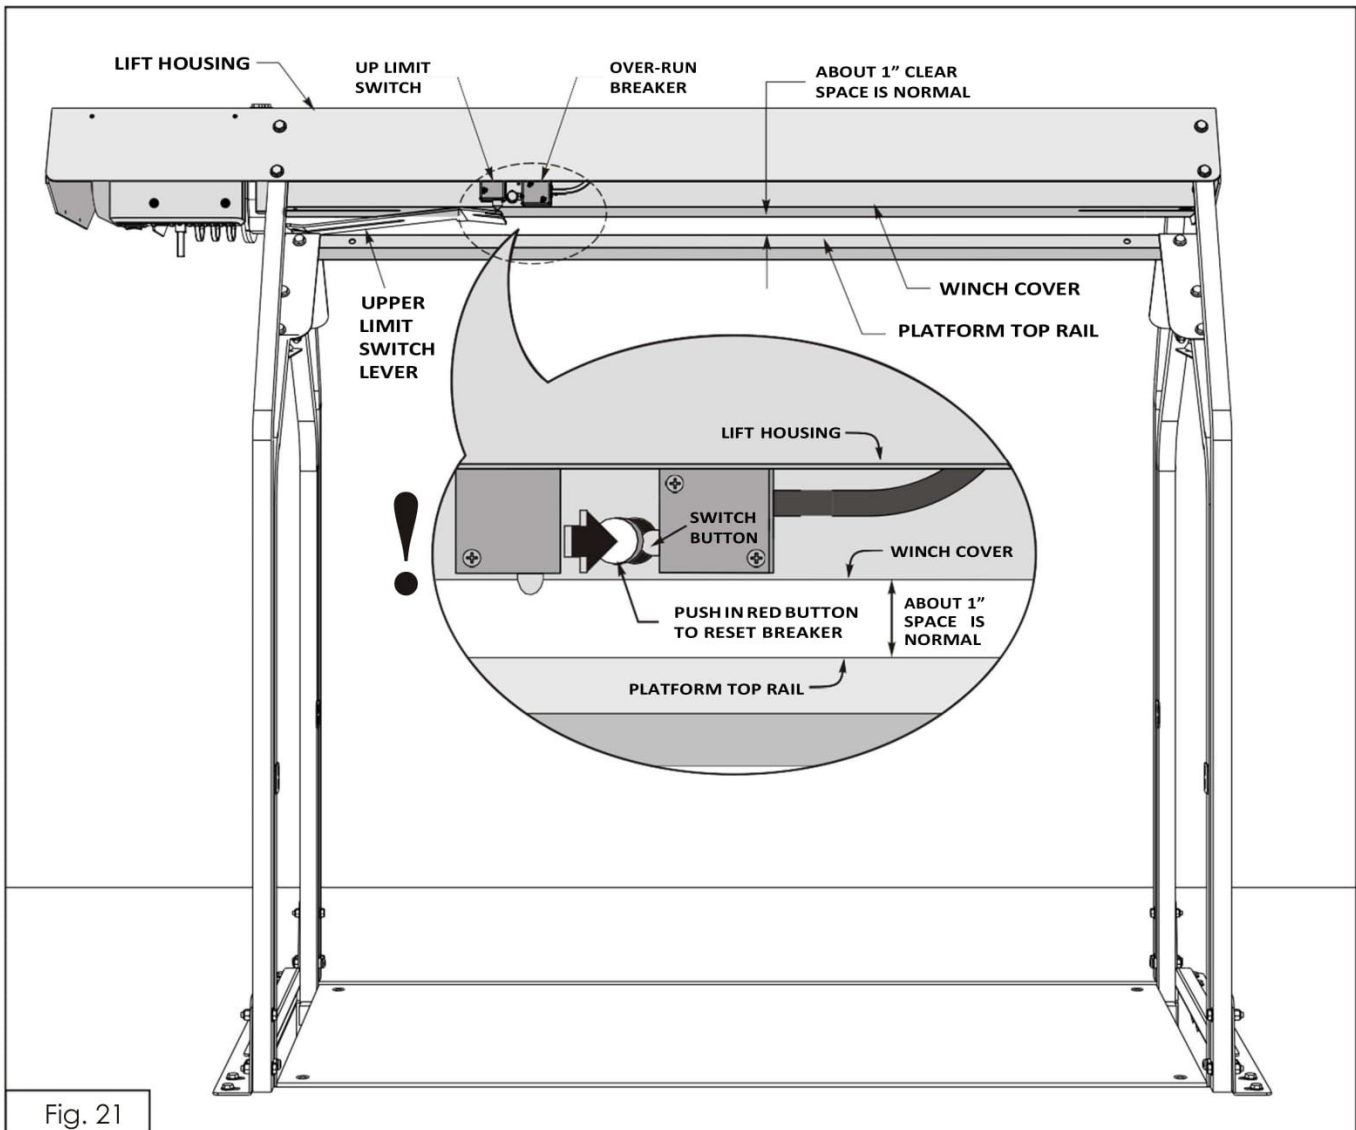

Fig. 21
**13.6. IF YOUR LIFT WILL NOT GO DOWN:** If your lift was working, but now will not go back down again, check the down limit "**over-run breaker**" illustrated in Fig. 21. Push straight in (firmly) on the red button. Now try to run the lift platform in the down direction. If it runs down now, it means that your down limit switch failed to stop the lift motor when the platform reached the floor and that tripped the over-run breaker switch. The down limit **over-run breaker** prevents the cables from being wound up backwards and possibly damaging to your lift. If the breaker trips again, **Do Not continue to use the lift until this malfunction has been corrected! The cause for this problem is that the down limit switch is either defective or not being activated.** The down limit switch must detect a release of tension in the cables (slack) when the platform lands on the downstairs floor and then stop the motor. (If your cables were not
- A. When the platform is raised all the way up and lifts the upper limit switch lever, the lever should not hit the winch cover. The platform top rail must stop about 1" from the winch cover (see Fig. 21);